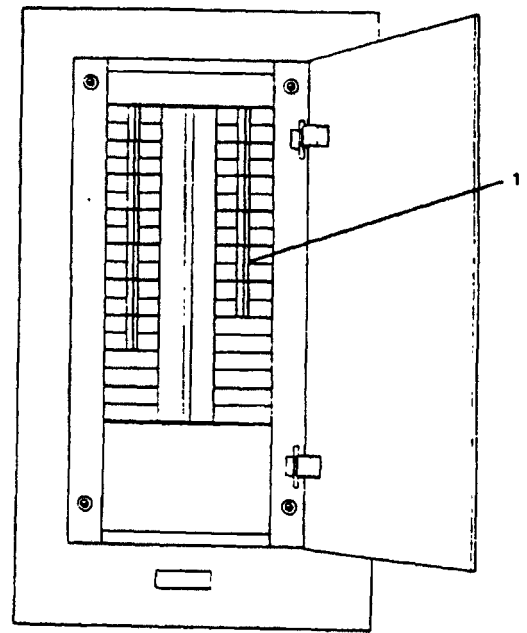

Figure 2-275. Engine Room Emergency Distribution Panel No. 1.
a. *Align Electrical System.* On engine room emergency distribution panel no. 1 (Figure 2-275), set ENGINE ORDER TELEGRAPH SYS circuit breaker (1) to ON position.
c. *Secure EOT.* On engine room emergency distribution panel no. 1 (Figure 2-275), set ENGINE ORDER TELEGRAPH SYS circuit breaker (1) to OFF position.